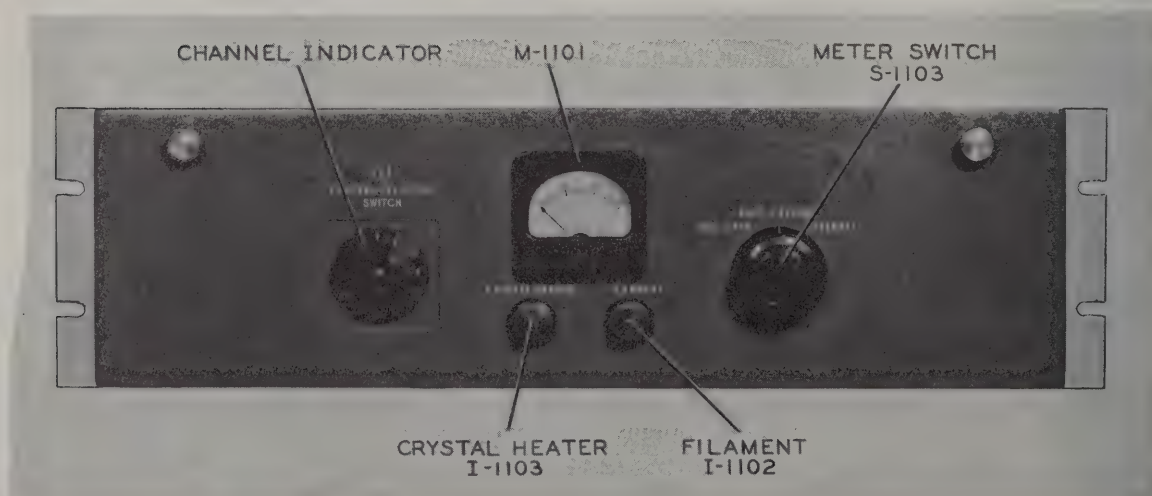

Figure 27. R-F Oscillator O-270/FRT-26 Controls.
*c. R-F Oscillator O-270/FRT-26 (fig. 27).*